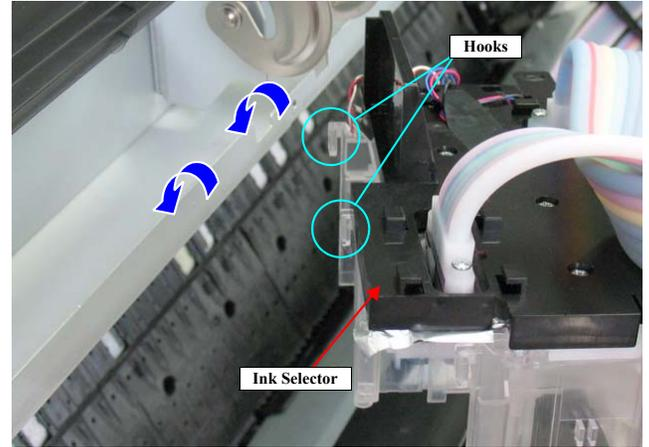

Figure 4-120. Securing the Ink Selector to the main body (1)
15. Attach the hook on the rear of the Ink Selector onto the Main Frame to secure the Ink Selector. See Figure 4-120.